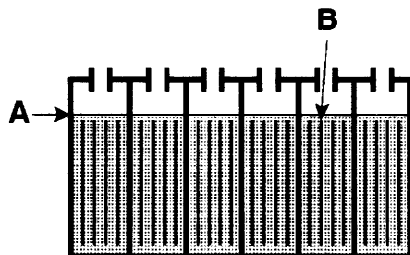

Figure 32
4. Check fluid level (A) in each battery cell before charging. If battery plates (B) are exposed, add just enough distilled water to cover plates by approximately 3 mm (0.13 in). DO NOT OVERFILL. Overfilled batteries will overflow during charging due to fluid expansion. Replace cell caps before charging (Fig. 32).